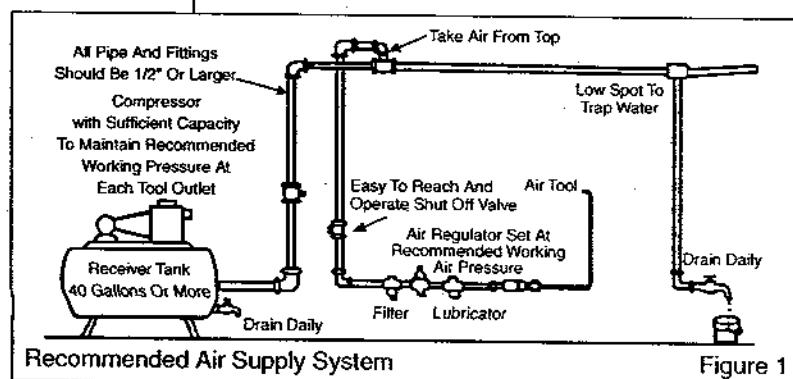

Figure 1
Use a clean lubricated air supply that will give a measured air pressure at the tool of 90 p.s.i./6.2 bar when the tool is running with the trigger fully depressed and the air regulator in its maximum opening flow position. Use recommended hose size and length. It is recommended that the tool is connected to the air supply as shown in figure 1. Do not connect a quick connect coupling directly to the tool, but use a whip or leader hose of approximately 12 inches length. Do not connect the tool to the air line system without incorporating an easy to reach and operate air shut off valve. The air supply should be lubricated. It is strongly recommended that an air filter, regulator, lubricator (FRL) is used, as shown in Figure 1, as this will supply clean, lubricated air at the correct pressure to the tool. Details of such equipment can be obtained from your supplier. If such equipment is not used, then the tool should be lubricated by shutting off the air supply to the tool, depressurizing the line by pressing the throttle lever on the tool. Disconnect the air line and pour into the hose adaptor (16) a teaspoonful (5ml) of a suitable pneumatic motor lubricating oil preferably incorporating a rust inhibitor. Reconnect tool to air supply and run tool slowly for a few seconds to allow air to circulate the oil. If tool is used frequently, lubricate on daily basis and if tool starts to slow or lose power. When lubricating, also ensure that the air strainer in hose adaptor (16) is clean. It is recommended that joint tightness of the threaded fastener assembly be checked with suitable measuring equipment. It is recommended that the air pressure at the tool while the tool is running is 90 p.s.i./6.2 bar.